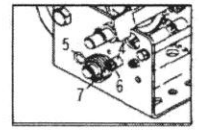

Fig.2
- B.Insert pivot bolt (7) thru frame side and then thru the spacer (4) Slide brake spring (5) over brake drum (3), and brake spring loop on to pivot bolt (7) and secure with lock nut (6). (Please refer to Fig. 2)